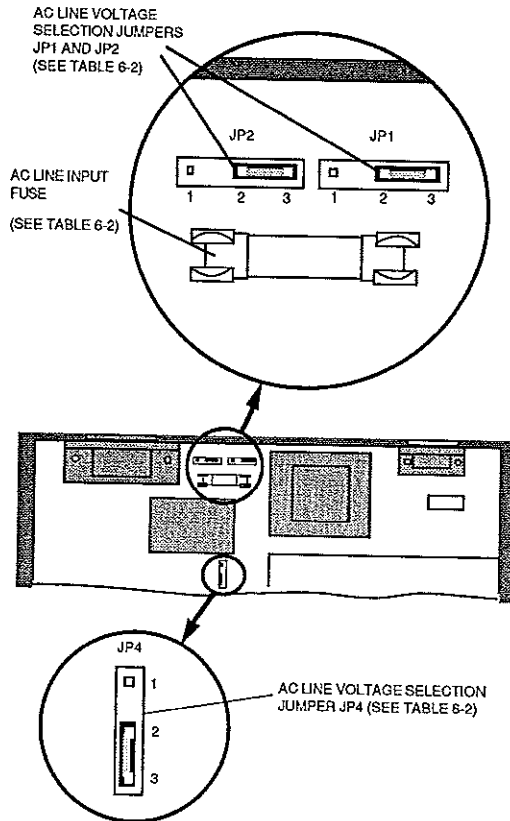

Figure 6-3. AC Line Voltage Selection Jumpers and Fuse
- (3) Locate the ac line voltage selection jumpers. See Figure 6-3.
- (4) Using Table 6-2, position the voltage selection jumpers for the applicable ac line voltage. If you change the line voltage configuration, be sure to replace the ac line fuse with one having the appropriate rating as shown in Table 6-2. To change the fuse, see Section 6.6 REPLACING THE AC INPUT POWER FUSE.
- (5) Replace the top cover:
- (1) Disconnect the ac line cord from the rear of the unit.
- (2) Remove any leads connected to the input terminals.
- (3) Remove the top cover. See Section 6.5, step (2).
- (4) Locate the ac line fuse (See Figure 6-3).
- (5) Place a small screwdriver blade under one end of the fuse and pry it out of the fuse holder. Finish removing the fuse with your hand. Discard the fuse if it is blown.
- (6) Insert a new fuse into the fuse holder. Place the fuse on top of the fuse holder. Press down on each end of the fuse to snap it into place.
- (7) Replace the top cover. See Section 6.5, step (5).